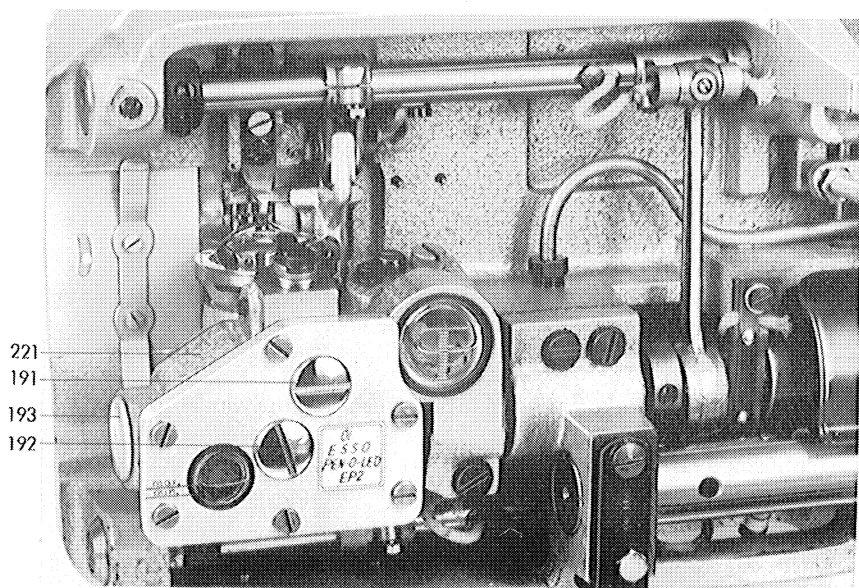

Fig. 29
1. Take out the two screws 191 and 192 (fig. 29) with the gaskets and remove plug 193. If the hook gear box is filled with oil, lift slightly the left hand side of the backwards tilted machine, so that no oil can leak from the open hole of the plug 193.